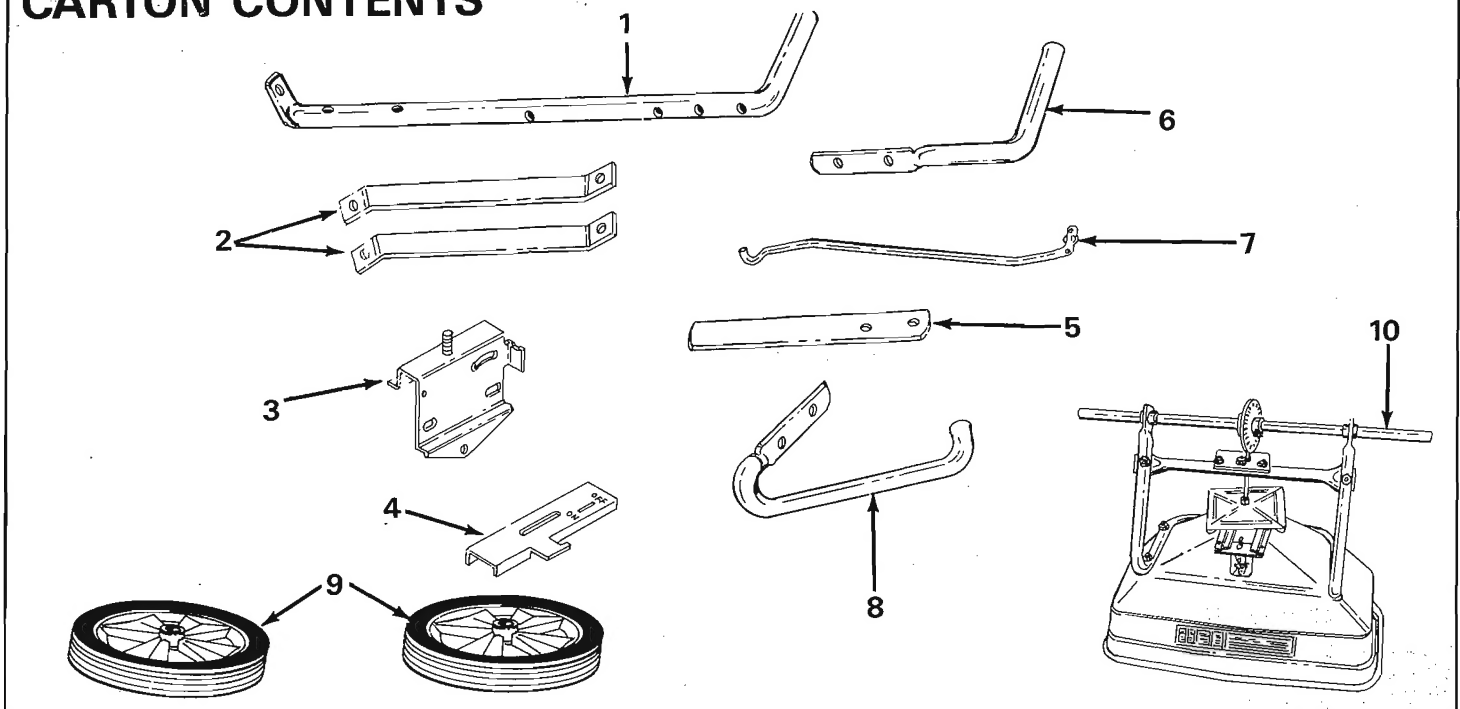

FIGURE 1
Your broadcast spreader carton contains parts as shown in figure 1. The hardware package contains parts shown in figure 2 on page 3. Identify all parts any layout as shown in figures 1 and 2.
1. Remove the spreader, loose parts and hardware package from the carton. See figures 1 and 2.